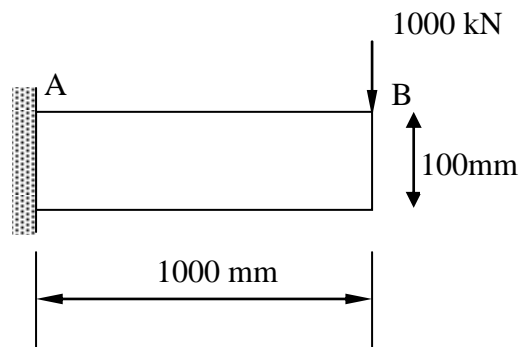

Figure 6(a)
- (b) Figure 6(a) shows a cantilever beam carrying a concentrated load of 1000kN at point B. The beam is modeled with linear four-noded rectangular elements (\square) and three noded triangular elements (\triangle). Given the Elastic Modulus $E = 200$ GPa, thickness, $t = 10$ mm and the Poisson ratio, $\nu = 0.3$. Sketch the results for the maximum stress in xx and yy direction for the beam especially at point A and B.